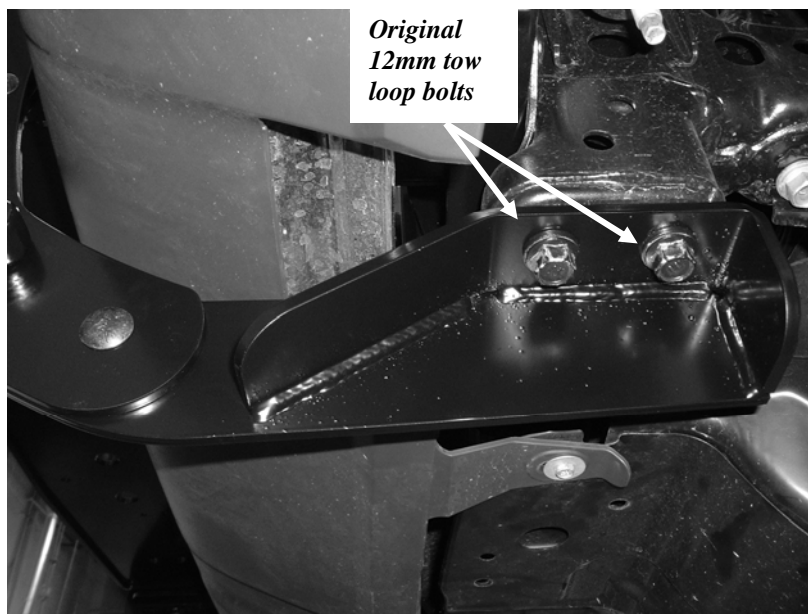

Figure 18 LH Bottom Bracket installed
22. Install the LH and RH Bottom Brackets using the original 12mm tow loop bolts. Bolt the Brackets into the tow loop holes. Do not tighten yet. **Figure 18**